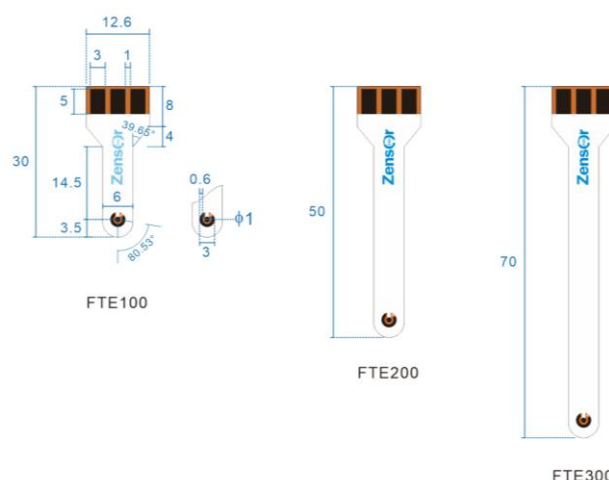

Figure 1 Dimensions of FTE100, FTE200 and FTE300.
All FTE series is based on polyimide (PI) substrate (0.125 mm of thickness). The electrode width on all kind of FTE series is 12.6 mm, and other dimension data of FTE series are shown in Figure 1. The geometric area of working electrode, counter electrode and reference on FTE series is 0.79 mm², 3.05 mm² and 0.20 mm² respectively.